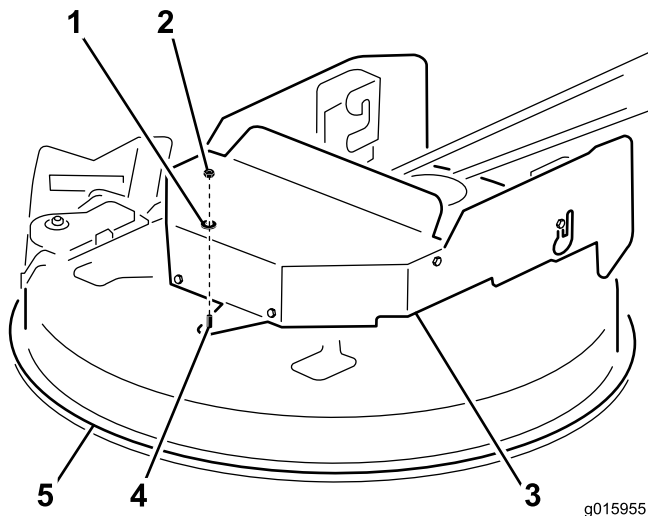

Figure 3
2. Mount the assembled deck belt guard onto the deck as shown in Figure 3, tightening all fasteners securely.